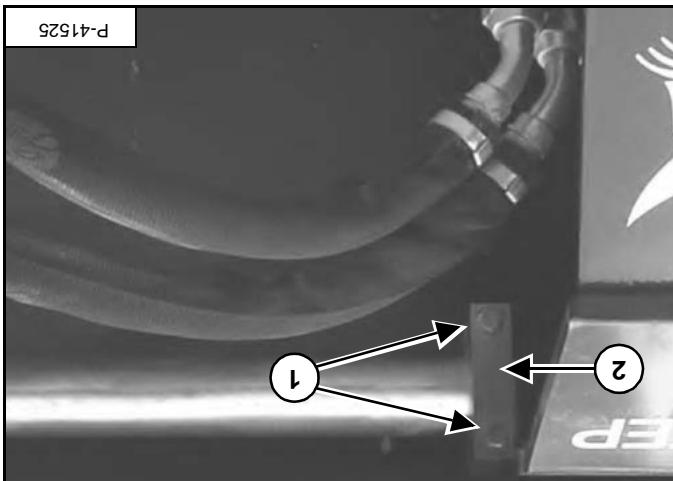
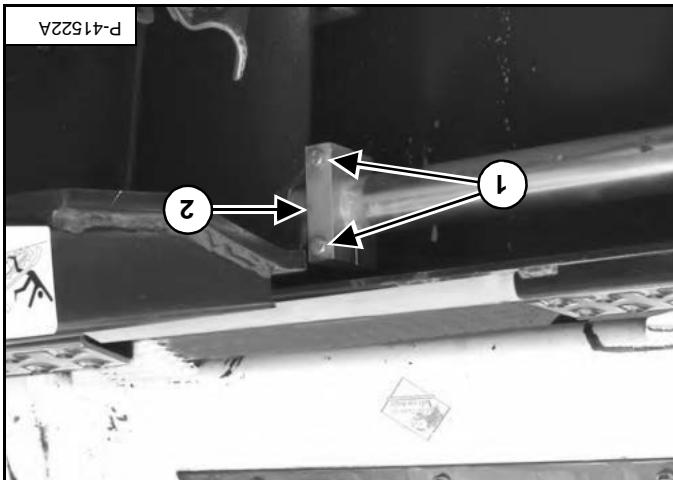

Figure OI-47
Figure OI-46
- Slide the blocks (item 2) [Figure OI-46] and [Figure OI-47] against the trencher frame. Tighten the bolts to 34-38 N·m torque.